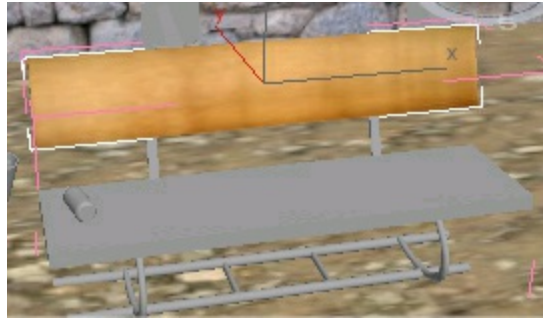

Figure 7-99 The wood material assigned to back
4. Select *back* from the *bench* group. Next, choose the **Assign Material to Selection** and **Show Shaded Material in Viewport** buttons from the **Material Editor** dialog box; the *wood* material is assigned to *back*, as shown in Figure 7-99.